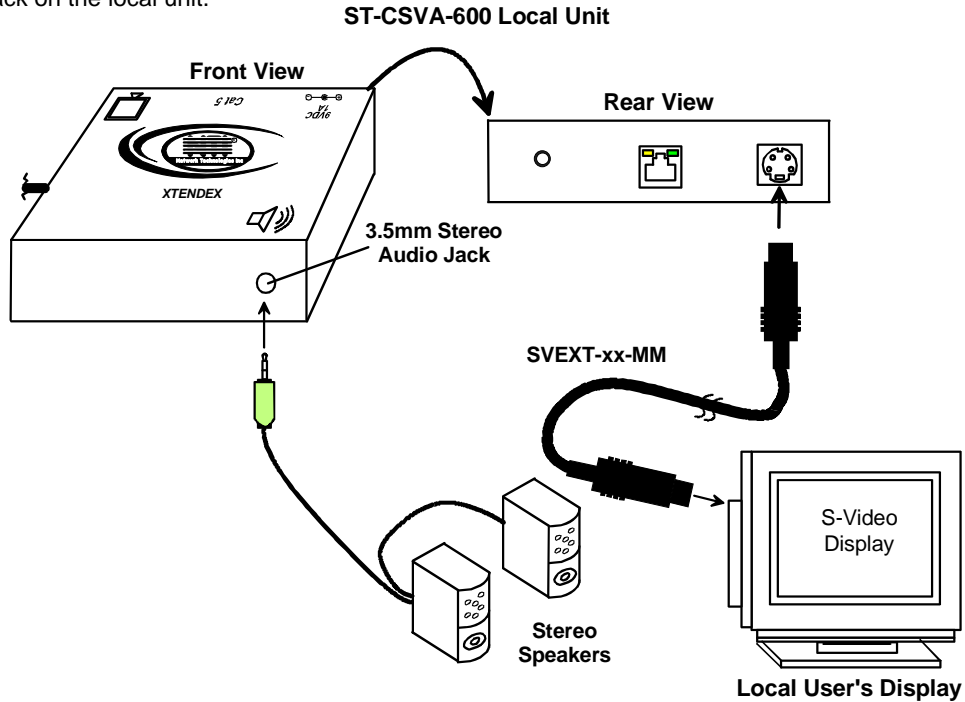

Figure 6- Connect S-Video display and speakers to Local Unit with s-video support
2. Make connections for a Local User (see Figure 6)